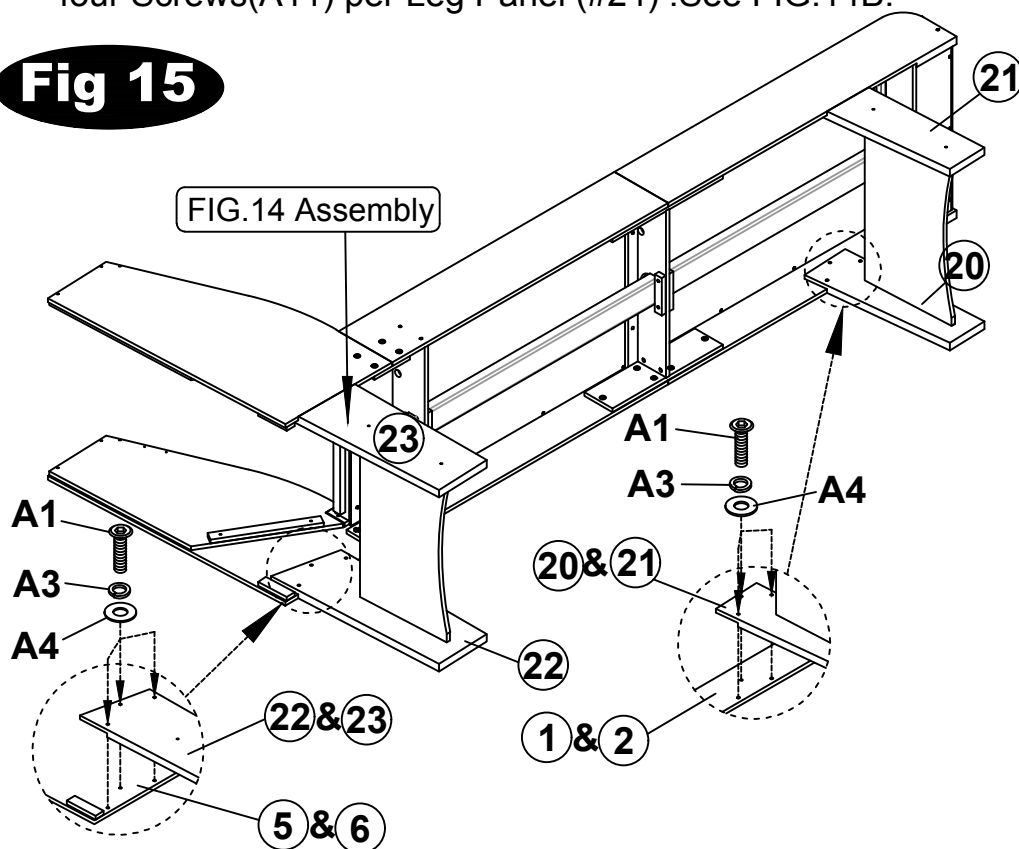

Fig 15
25. Attach the Leg-A(#20 & #21) to the Side Panels(#1 & #2) using three Bolts(A1),three Spring Washers(A4) and three Washer(A3) per Leg-A (#20 & #21) .See FIG.15.